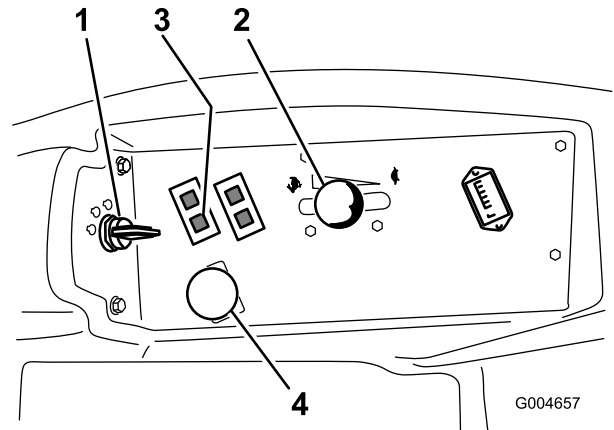

Figure 47
4. Move the PTO (power take-off) switch to the off position (Figure 47).
5. Move the throttle lever midway between the Fast and Slow positions (Figure 47).